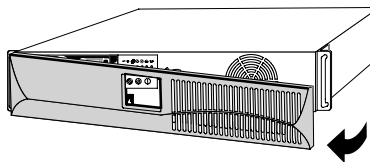

Figure 2. Removing the UPS Front Cover
2. Remove the UPS front cover by pulling on both ends (see Figure 2).